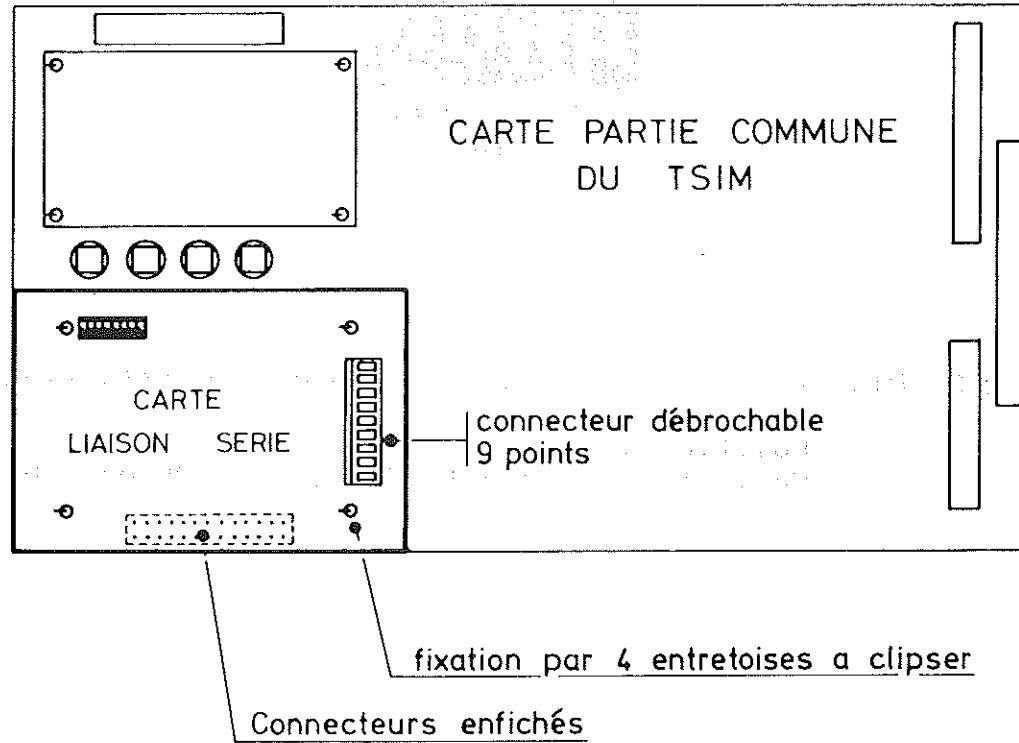

fig 2
2. - MONTAGE ET RACCORDEMENT - Fig. 2 -